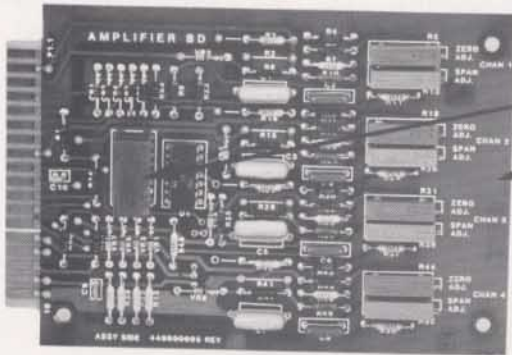

Figure 3-6. Bridge Amplifier Board
3. Check that the bridge amplifier board is the correct type to match the RTD. (See Figure 3-6 and Table 3-3.)